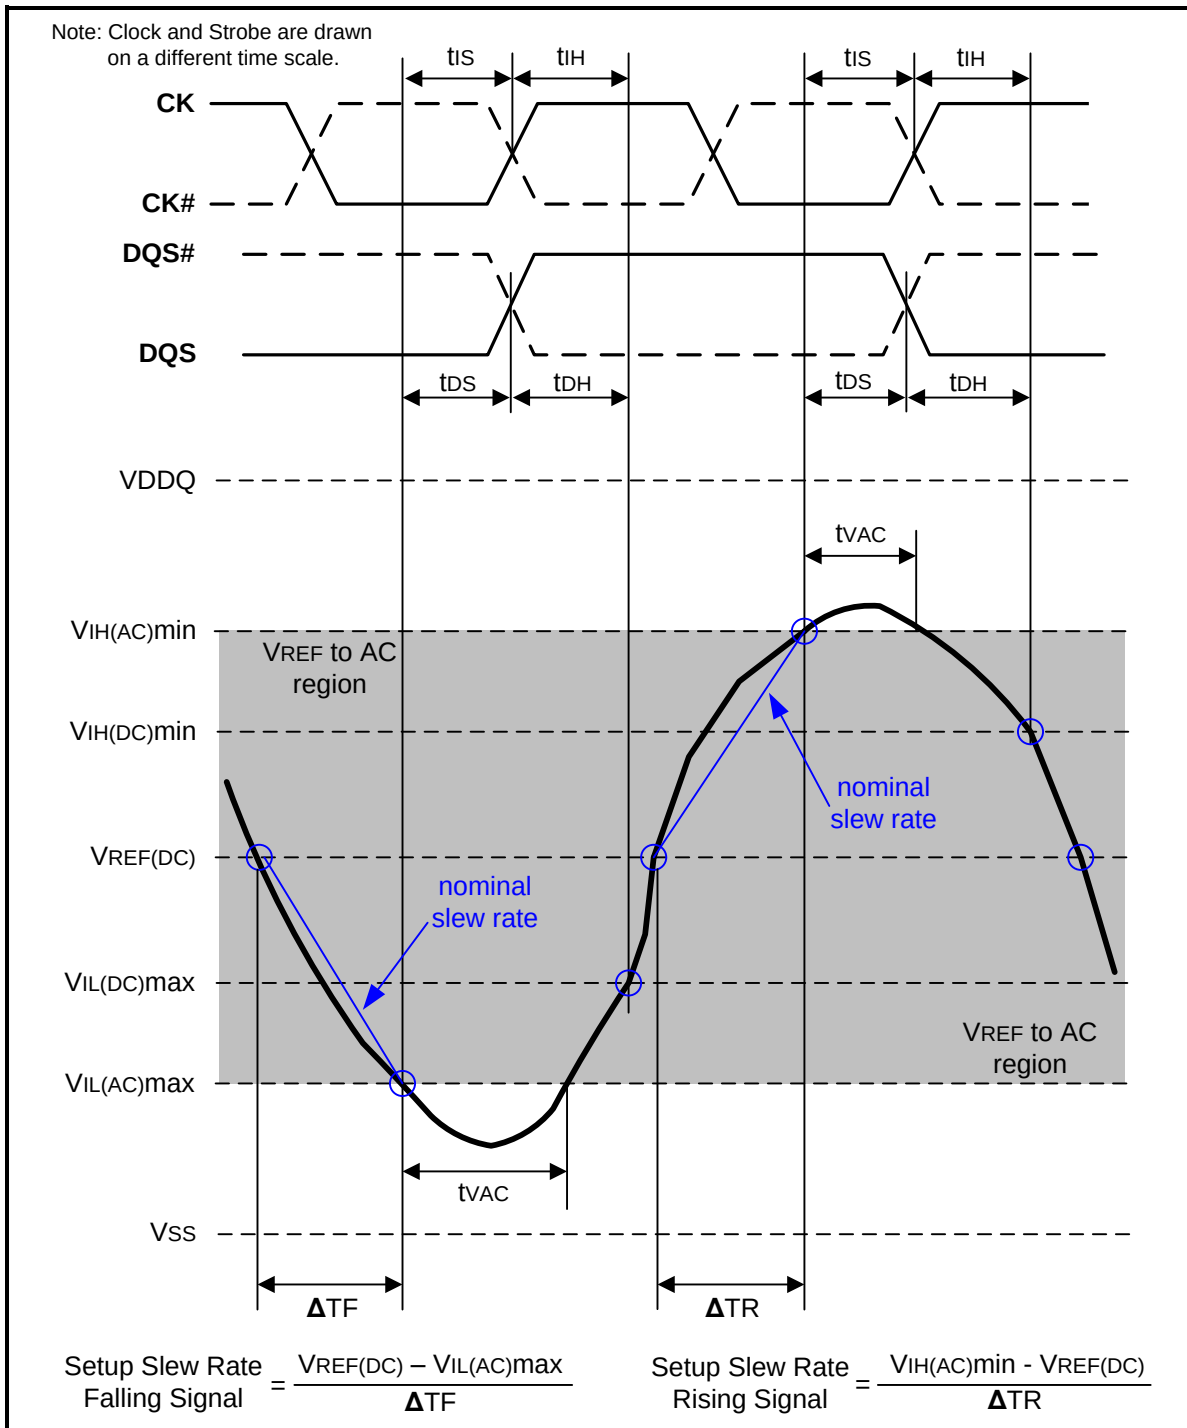
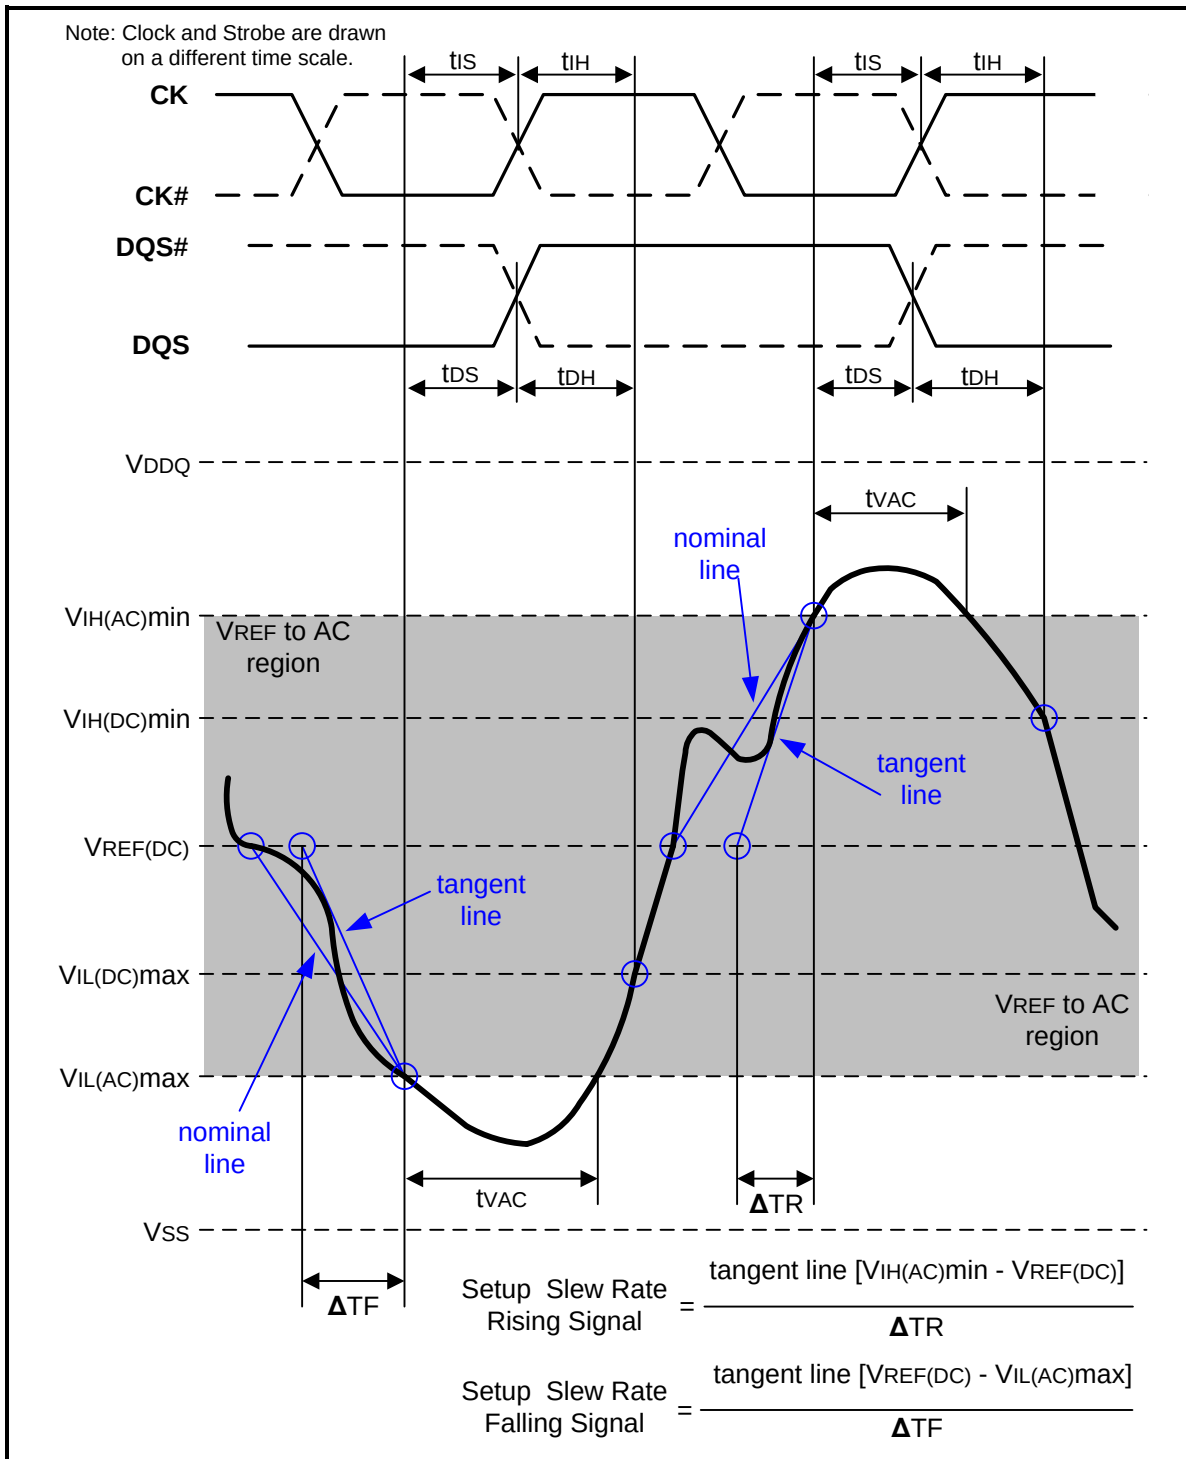

Figure 107 – Illustration of nominal slew rate and t_{VAC} for setup time t_{DS} (for DQ with respect to strobe) and t_{IS} (for ADD/CMD with respect to clock)
Figure 109 – Illustration of tangent line for setup time t_{DS} (for DQ with respect to strobe) and t_{IS} (for ADD/CMD with respect to clock)
Setup (t_{IS}) nominal slew rate for a rising signal is defined as the slew rate between the last crossing of $V_{REF}(\text{DC})$ and the first crossing of $V_{IH}(\text{AC})_{\text{min}}$. Setup (t_{IS}) nominal slew rate for a falling signal is defined as the slew rate between the last crossing of $V_{REF}(\text{DC})$ and the first crossing of $V_{IL}(\text{AC})_{\text{max}}$. If the actual signal is always earlier than the nominal slew rate line between shaded ' $V_{REF}(\text{DC})$ to AC region', use nominal slew rate for derating value (see Figure 107). If the actual signal is later than the nominal slew rate line anywhere between shaded ' $V_{REF}(\text{DC})$ to AC region', the slew rate of a tangent line to the actual signal from the AC level to DC level is used for derating value (see Figure 109).
Setup (tDS) nominal slew rate for a rising signal is defined as the slew rate between the last crossing of VREF(DC) and the first crossing of VIH(AC)min. Setup (tDS) nominal slew rate for a falling signal is defined as the slew rate between the last crossing of VREF(DC) and the first crossing of VIL(AC)max (see Figure 107). If the actual signal is always earlier than the nominal slew rate line between shaded 'VREF(DC) to AC region', use nominal slew rate for derating value. If the actual signal is later than the nominal slew rate line anywhere between shaded 'VREF(DC) to AC region', the slew rate of a tangent line to the actual signal from the AC level to DC level is used for derating value (see Figure 109).